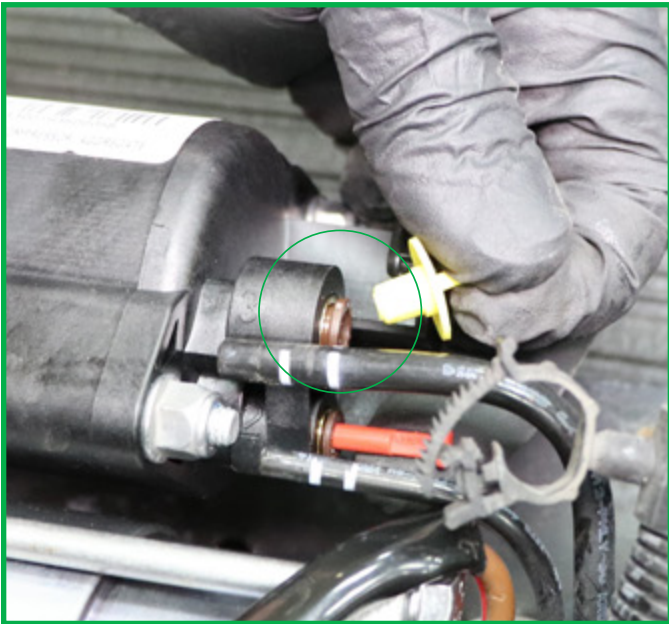

FIGURE 26
4. Remove the two (2) shipping plugs from the compressor. (Figures 26, 27)